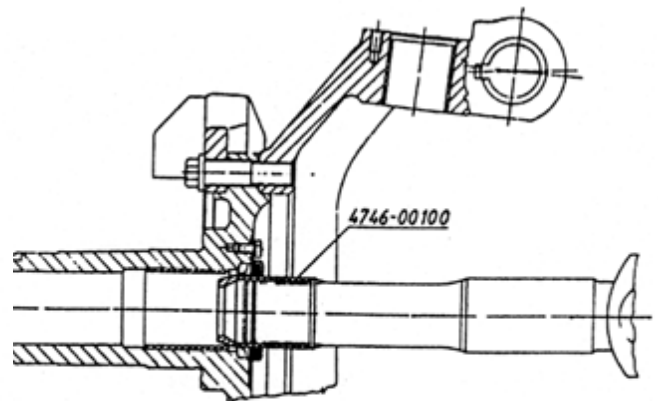

Fig. 3.: REINSTALLING THE STEERING KNUCKLE
Pull the service sleeve shown over the outer axle shaft (24) for playing the inner seals of the spindle past over the outer axle shaft splines (Fig. 3.).